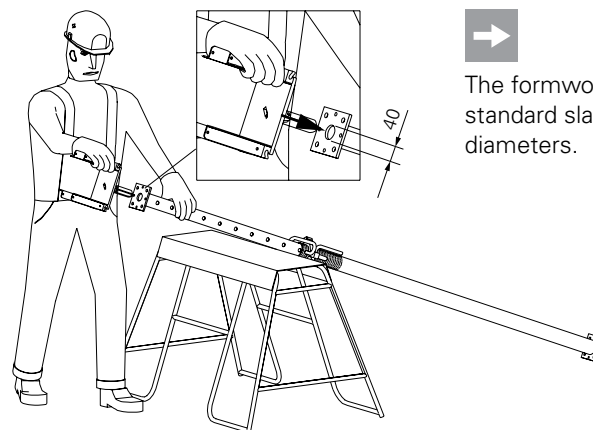

Fig. A2.03
- Set up the prop. (Fig. A2.03)